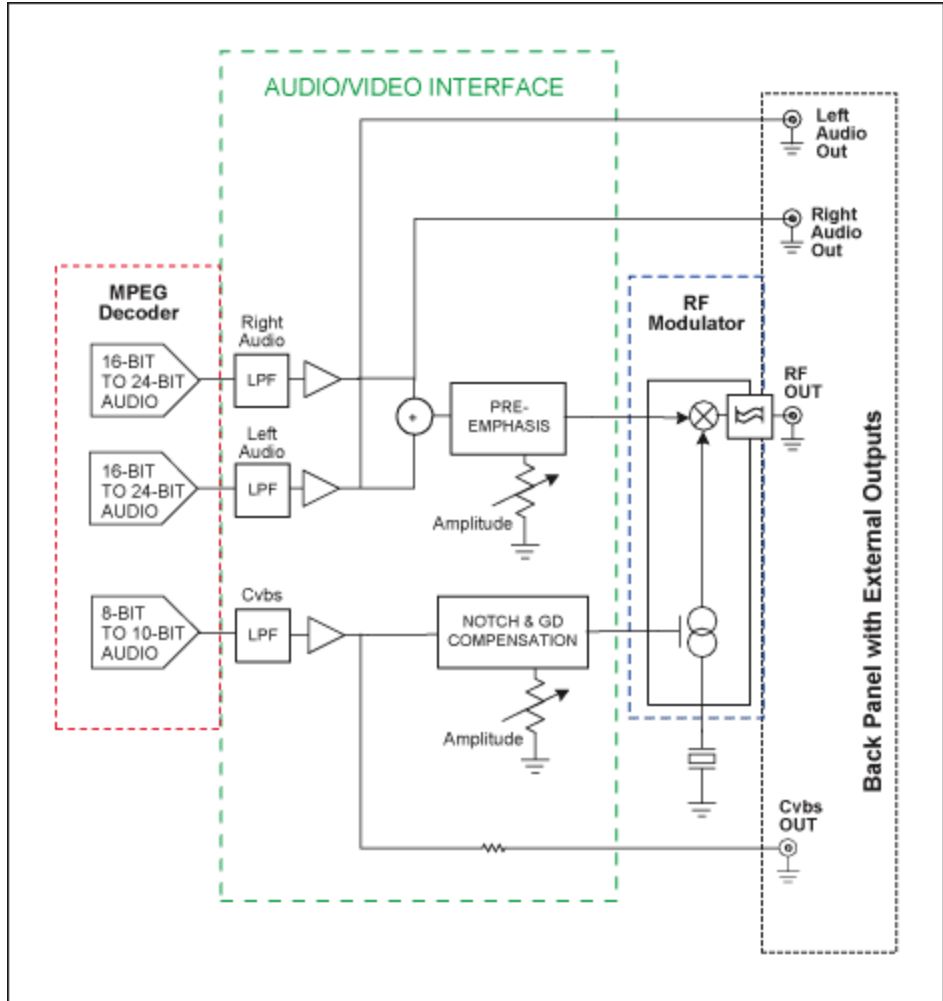
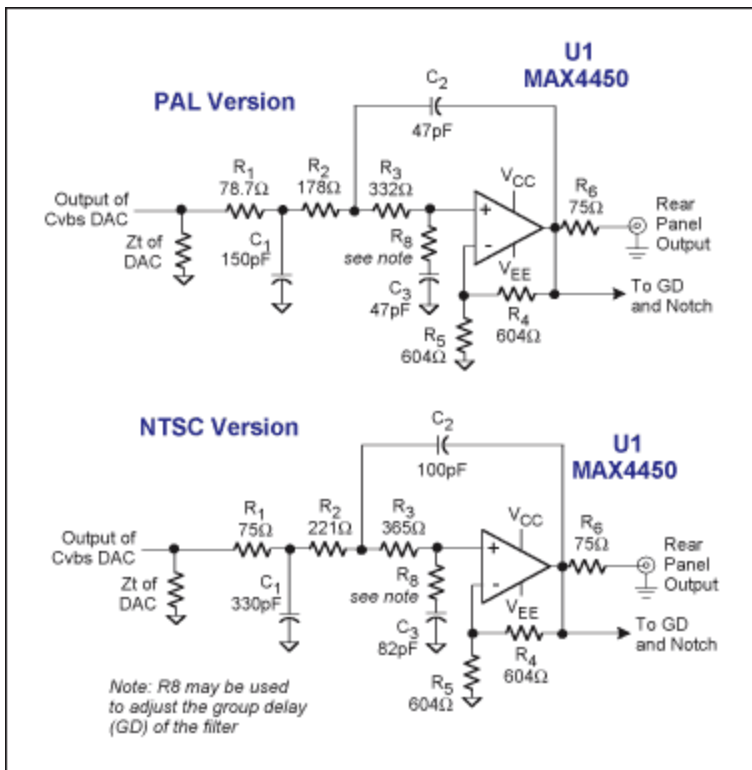

Figure 1. Block diagram of A/V signal conditioning to drive an RF modulator.
Figure 3. NTSC and PAL reconstruction filters.
For driving RF modulators in NTSC and PAL systems, the allowable video group-delay variation and required audio preemphasis are clearly specified by Recommendation ITU-R BT.470-6. Most of the other indistinct specifications are summarized and extrapolated to include other, unstated design specifications in **Tables 1 and 2**. Table content is based on typical back-panel outputs for a TV, DVD, or set-top box having both baseband and RF-modulated A/V outputs (**Figure 1**).
Note 1: See Figure 3 of ITU-R BT.470-6.
The requirement to notch-filter the video around the audio subcarrier is not stated, but implied by the group-delay adjustment described in **Figure 3** of ITU-R BT.470-6. Such notch filtering is usually recommended for modulator chips. Also requiring attenuation are the rear-panel signals, whose output levels are typically higher than required for the modulator inputs. These conditions lead to requirements for the A/V interface of Figure 1:
- Group-delay compensation to meet the profile in Figure 3 of ITU-R BT.470-6, as determined by that standard
Video adjustment is more difficult. It is not highly oversampled and, therefore, requires at least a three-pole reconstruction filter. If this filter causes excessive group-delay variation, you must compensate for it and add gain to make up for variations in the video DAC output and back-termination loss. Again, the best solution is an active filter. A suggested design for NTSC or PAL2 applications is shown in Figure 3. Benefits of this design are adjustable group delay (using R8), and the ability to drive the rear panel as well as the input to the video portion of the RF modulator. You can address multiple outputs such as composite video and S-video by combining the active filter with a triple or quad op amp (like the MAX4382 or MAX4383).